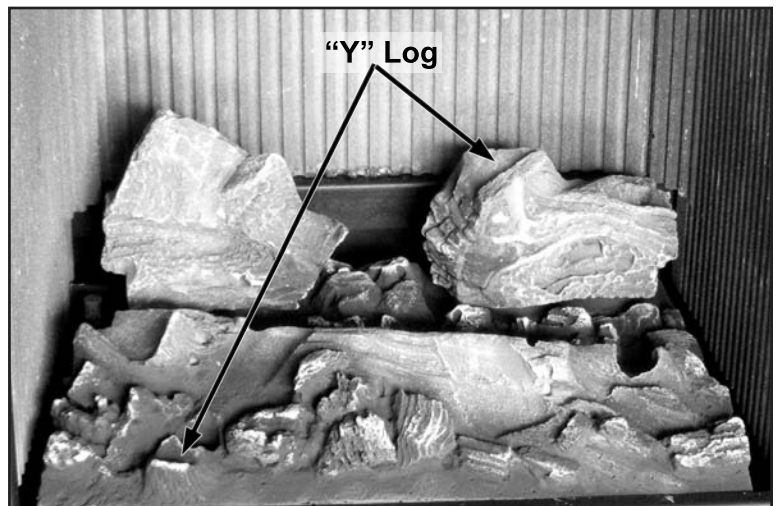

Figure 38: Log Placement of “Y” Log.
3. Place the bottom of the “Y” Log in the ledge at the front left of the burner and the top of the log rests on the Right Rear Log Chunk as shown in Figure 38 and 39.